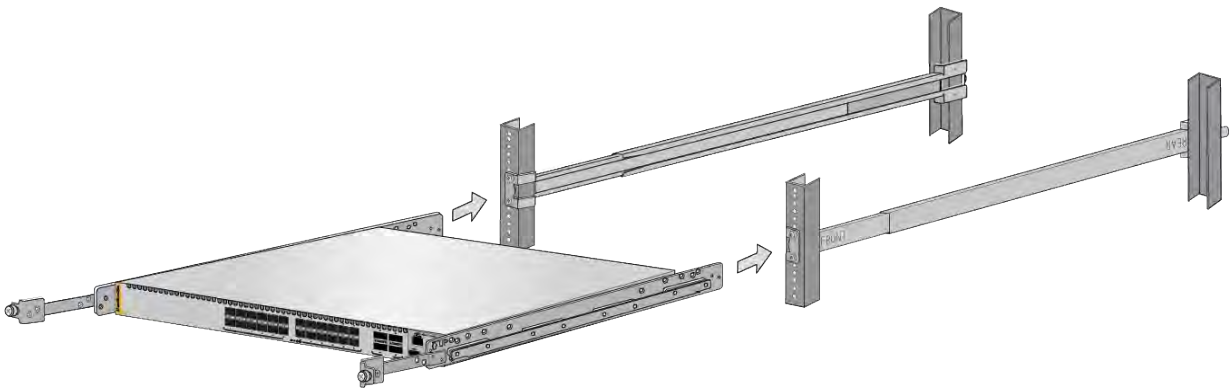

Figure 87. Sliding the Inner Rails on the Switch into the Outer Rails
1. Install the switch in the sliding rack by sliding the inner rails into the outer rail grooves. Refer to Figure 87.